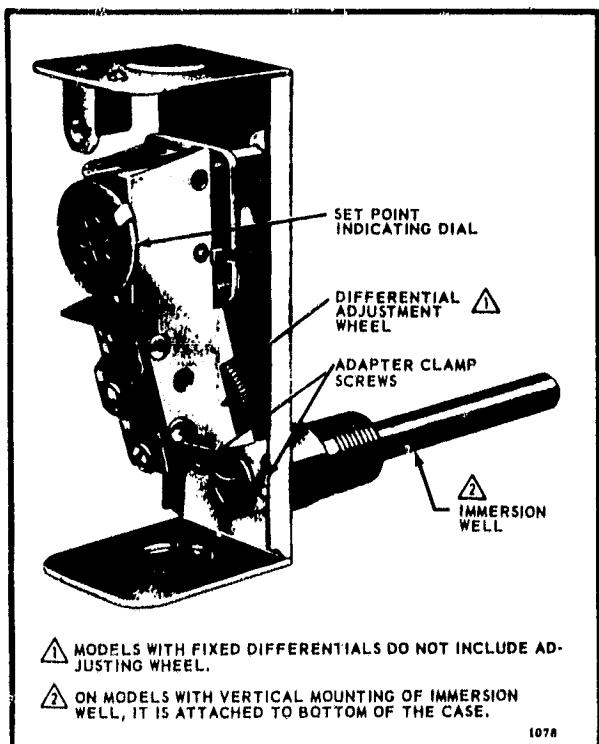

FIG. 11-INTERNAL VIEW OF L6006A.
a. Loosen screw (at top of case, above scale-setting), and remove cover. Loosen two screws that secure adapter clamp. See Fig. 11.